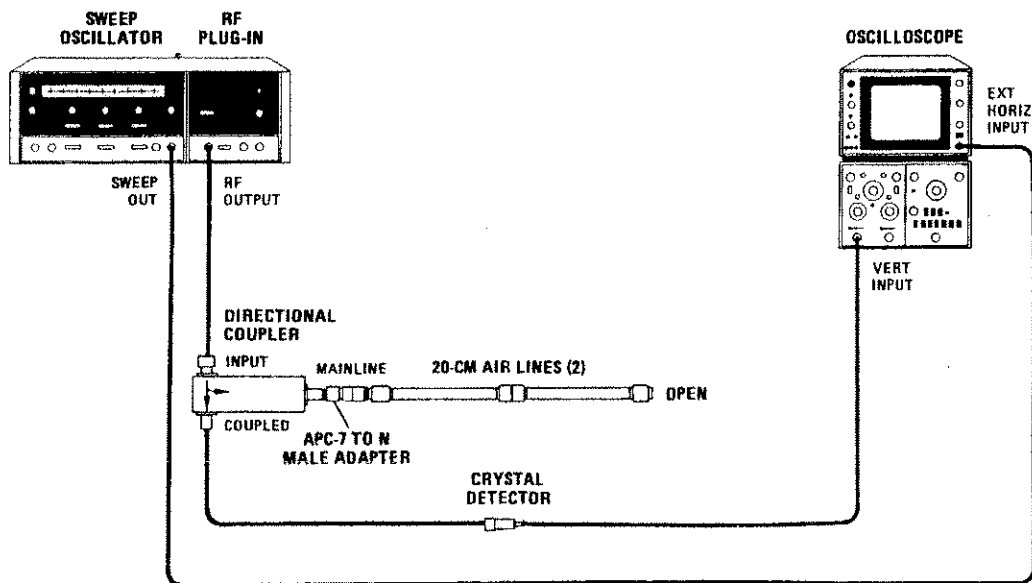

Figure 4-15. Equivalent Source SWR Test Setup
- a. Connect equipment as shown in Figure 4-15.